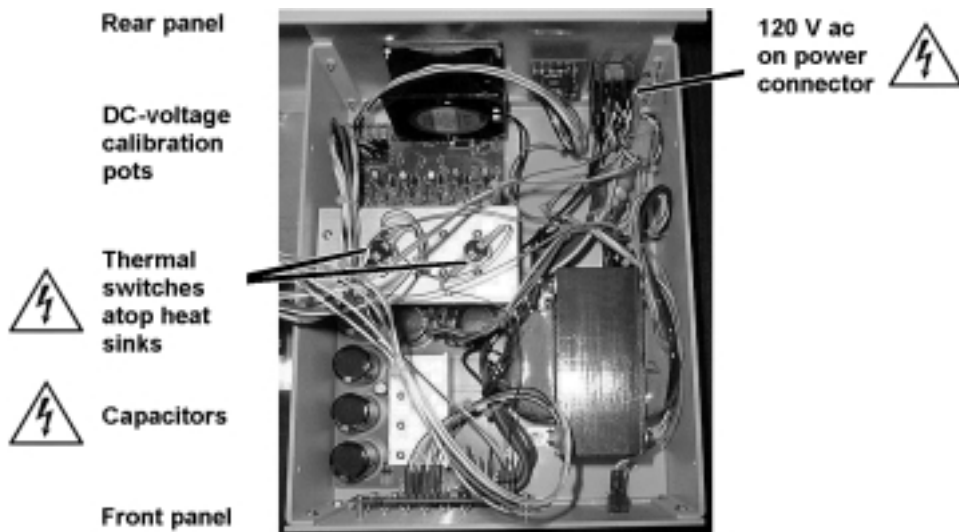
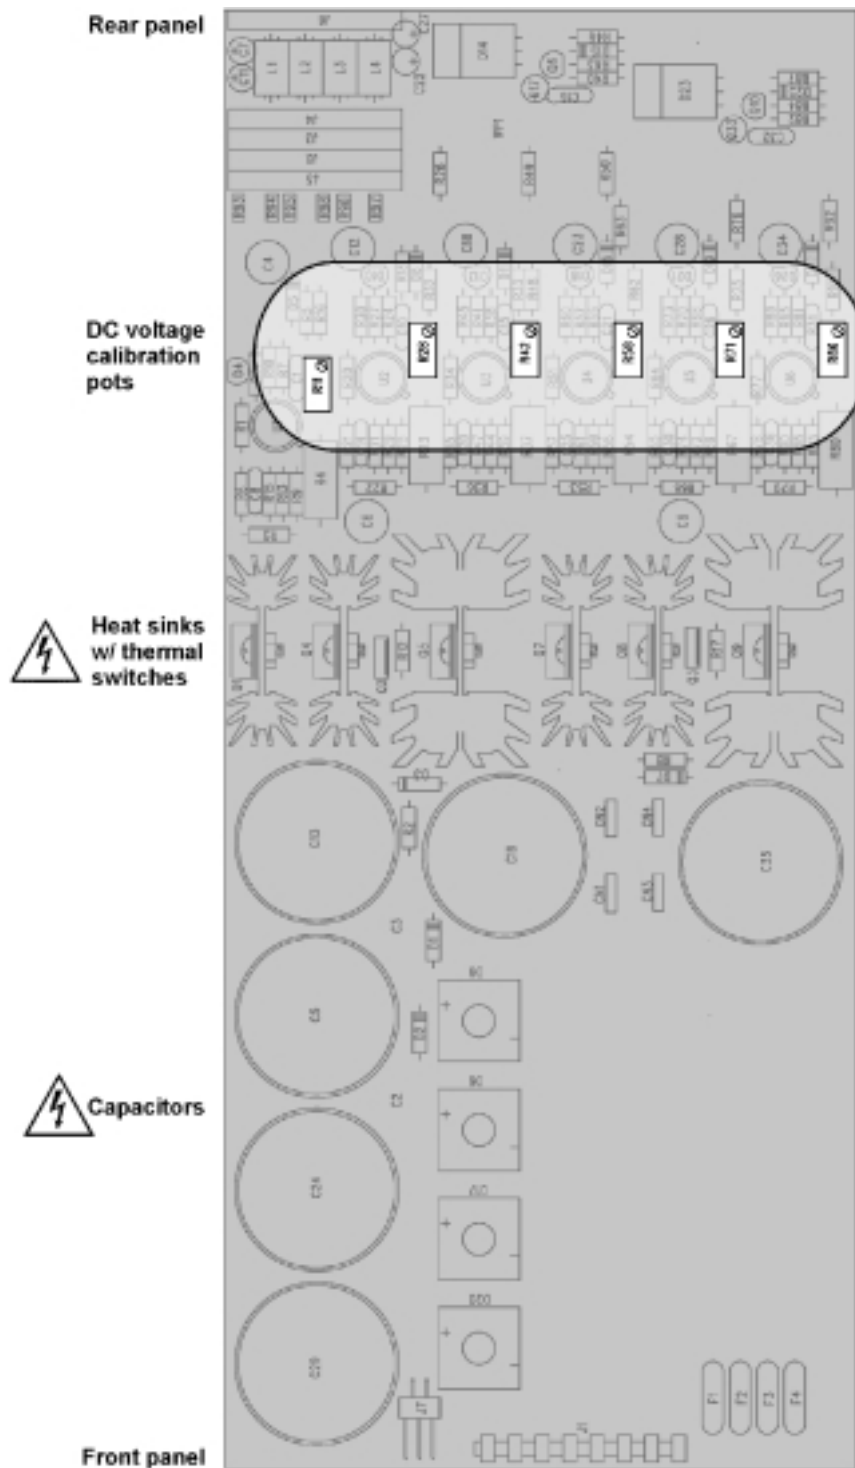

Fig. 4. Do Not Touch the Thermal Switches, AC Power Connector, or Capacitors.
Fig. 5. The Six DC-Voltage Calibration Potentiometers — R11, R28, R42, R58, R71, and R86 — Located on the Rear Third of the Board.
DANGER Before reaching inside the bottom section, use Figs. 4 and 5 to locate the two **thermal switches** on top of the heat sinks in the center of the board; the **ac power connection** on the inside rear panel; and the **capacitors** on the front half of the board. Dangerous voltages are present on these switches, connections, and capacitors. **Be sure not to touch them** as you adjust the dc-voltage calibration potentiometers! Check the voltage *outside the unit only*, on the pins of one of the rear-panel, preamplifier power plugs. (Remember, too, that the heat sinks may be very hot.)
5. The printed wiring board is located on the left of the bottom section (Fig. 4). The six dc-voltage calibration potentiometers are on the rear one-third of the board (Fig. 5), closest to the fan.